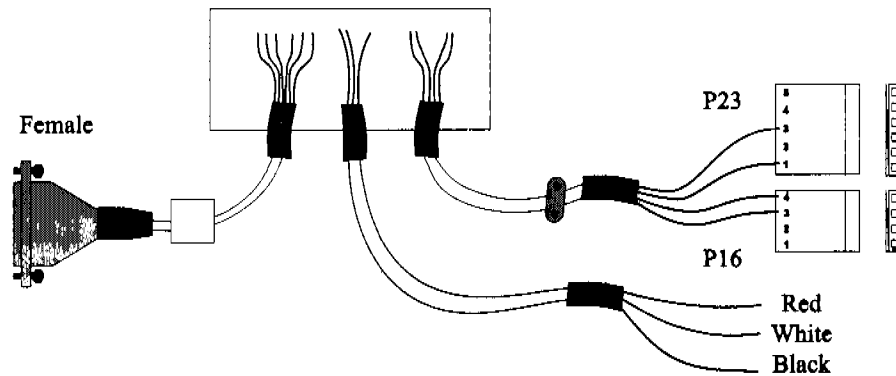

Figure 8.16. Handshake cable to Eclipse/Model 4560/4460 to Varian 3400/3600 (PN 03-505870-00)
Connect the Model 4552 to the OI Analytical Eclipse, Model 4560, or Model 4460 Sample Concentrator with a Varian 3400/3600 GC using the following instructions (Figure 8.16 and Table 8.12).
4. Attach the remaining connectors to start the data system. See Figure 8.16 for the correct wiring locations. Refer to the GC and data system operator's manuals for correct connector locations.